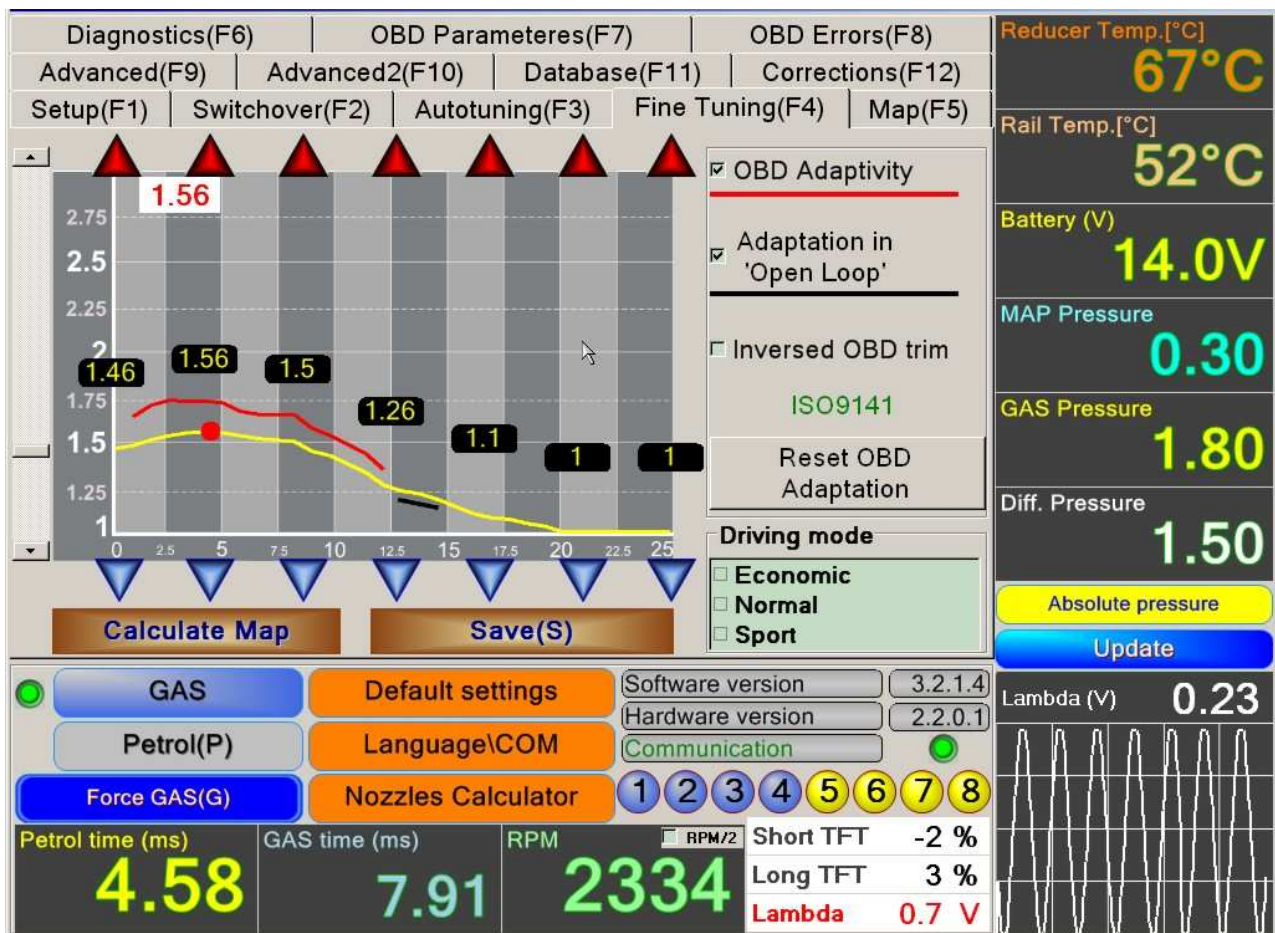
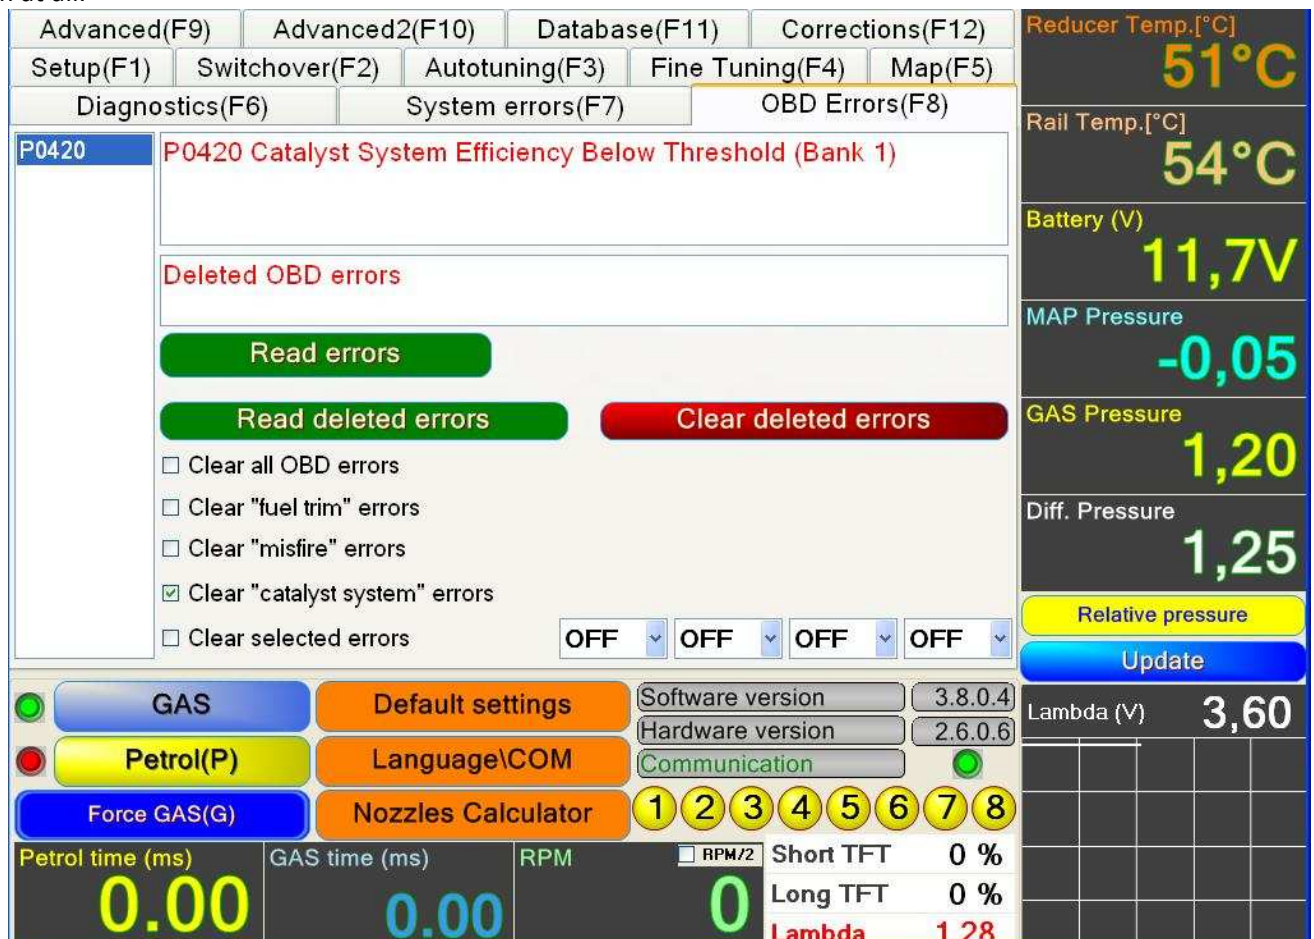

FIG.7
FIG.14
11. MENU “FINE TUNING” – (F4) – FIG.7
The real sign for improper sequence of the cylinder arrangement you can find when switch-over LPG/Petrol or vice versa in case the petrol injector times in “Petrol” mode and in LPG mode are equal. You can adjust this equality by using the arrows near in the “FINE TUNING” (FIG.7) menu, waiting near 10 seconds and switching over a few times Petrol/LPG. If after this procedure the engine is still shaking for a second when switchover the fuels you must check the sequence of the LPG injectors. Rarely the mistake could be from the hoses row to intake manifold, it is easy to correct by rearranging the connectors on the LPG rail.
From left to chart is added slider, which is carried out by moving the entire schedule all coefficients vertically. Activate slider by double click on the chart. (Fig.7)
From the "FINE TUNING" (FIG.7) menu use the checkbox labeled "Normal". On the screen you see coefficients; the working in each moment is colored in RED point. Ensure permanent load, RPM and throttle position (gas pedal) switch-over from "Petrol" to "LPG" and if the petrol injector times are changing, correct the colored in blue coefficient simultaneously with switching over. If the petrol time when turn over from "Petrol" to "LPG" is increased you have to increase the coefficient and vice versa till you reach the equality of these petrol times. It is recommended to use this procedure for more load conditions of the engine (at least 6-10). If you didn't manage to cover all driving modes using the arrows adjust all uncalculated coefficients near to the calculated ones. Looking over the curve, you'll try to make this curve smoother.
12. SELFADAPTIVITY IN F4 MENU /FIG.7/ ONLY FOR OBD SYSTEM
When the instalation of the wires, used for OBD/CAN connection to the back wires of the car's 16-pin diagnostic connector is correct, you will see on the right side of the screen FIG.7 next to the chart: **OBD adaptivity, 'Adaptivity in Open loop', Reset OBD adaptation**". If you do not see them it means them it means that the wires are not properly connected. On the screen 'Fine tuning' you could choose by signing the check box **OBD adaptivity**, which allows you to adjust the gas system permanently on gas during all the driving time. The only thing you have to do in this case is to install the nozzles with proper size. After this the ECU will use factory set coefficients, modifying them all the time in all driving modes, storing them into the memory. After switching off and switching on again you could see with yellow line factory set coefficients (or the curve after manual adjustment or auto tuning). With red line you'll see the curve of the coefficients which gas ECU use, to keep the Short term fuel trimmer(STFT) close to 0%. Then you could readjust the yellow curve max. closed to the red one. This way if on some reason OBD connection is interrupted, the system will run properly adjusted. On the screen is also seen check box **'Adaptivity in Open loop'**, which allow you to see what have to be coefficients when the petrol ECU stop to read the O2 sensor and run using internal tables with petrol times vs. RPM and other parameters. It usually happens over 4000 RPM and TPS more than 50%. If this check box is switched on and you drive in that mode, when close the software and open it again, it could be seen black curve, which give you information how you could adjust coefficients at high load.
This chapter will give more information about the OBD/ CAN communication modul and will direct to easy adjustment of the system. First of all you could see two screens in the menu **“System Errors” (FIG.7)** and **“OBD Errors” (FIG.14)**. The most important parameters from OBD are: “short” and “long term fuel trimmers”. For convenience you will see these parameters also on the proper place in all teh menus. Shortly you have to know, that you need to keep them near to 0%. If their values are very different from 0% at petrol, you need to readjust the coefficients in gas mode so, that the values of these both parameters have to be equal to them in petrol mode (for instance at petrol mode they are +18%, adjust the coefficients this way, they are near +18% in gas mode). Here is the place to mention what these two parameters mean. If they are permanently positive (+.%), it means the fuel mixture is too lean and the petrol ECU will try to encrease the injection times to compesate this. If their values most the time are negative, the mixture is rich. Most often these parameters are positive when the petrol injectors are dirty or negatjve when the car is run over 100 000 km or the air filter is dirty. Analizing these parameters you could find some problems in the gas system in whole. For instance after 30-60 thousand km melease the gas injectors increase the flow rate, so the gas ECU make the fuel mixture rich and the “short and long fuel trimmer” became negative. In this case you have to readjust the coefficients properly.
The other mode in the menu is “OBD Errors” /FIG.14/. Using this menu, you could read, analyze and clear all errors, established on the time of installing, adjusting and using the gas system any time. There is an option to automatically delete by asking certain groups and four individual errors!